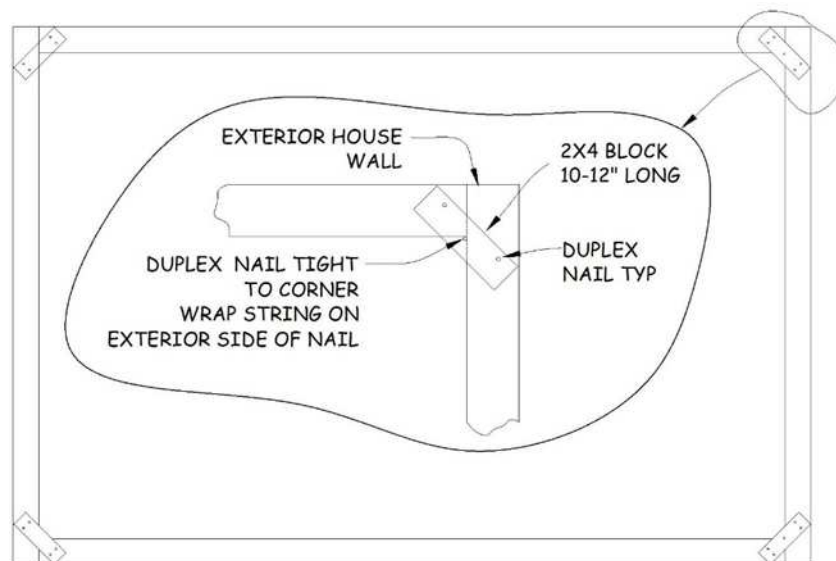

Figure 5-5. Installing String Line.
4. Place the 2x4 piece on top of the 2x6 upper plates at roughly a 45° angle so that the protruding end of the 16d duplex nail rests tightly against the "inside" corner of the upper plates of both walls (see Figure 5-5).